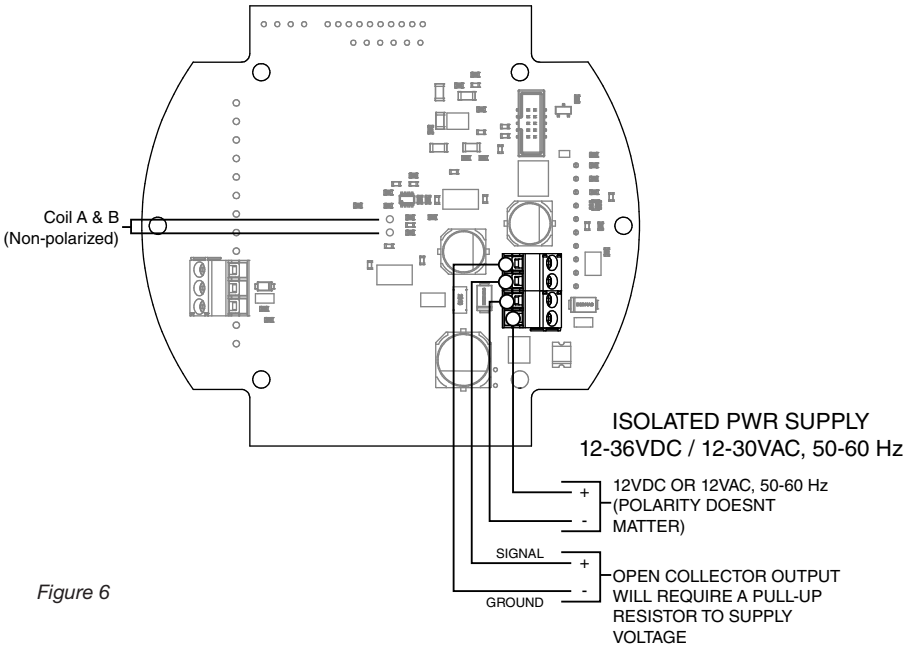

Figure 6
4. Install the gasket received with the module on the bottom of the base. Mount the base to the TM meter, seating the pick-up coil in the meter recess. Secure base with (4) screws provided with the module. Tighten screws.
5. Make sure the seal is in place on top of the base prior to reattaching (if previously disconnected) the (2) wires to the screw terminal of the pick-up circuit board.
8. Connect cable wires to the QSB or QSI PC board screw connectors (see Figure 6, 8, 10, or 12 depending on your module version).
9. Mount the cover plate on the base making sure the seal is seated properly between them. Replace the (6) previously removed screws to secure the cover plate to the base. Tighten screws.